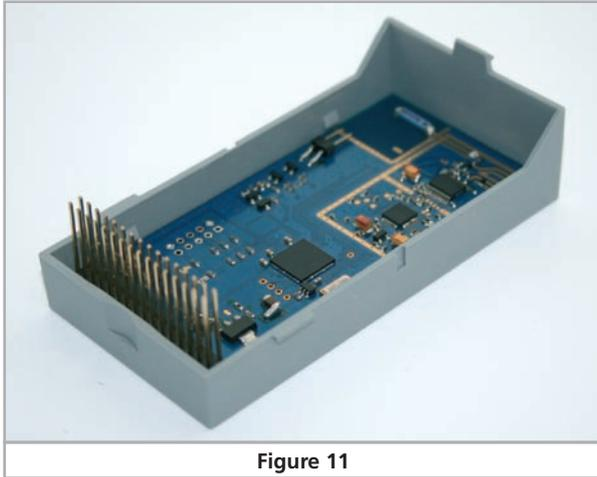

Figure 11
- b) Insert the receiver module into the plug-in position until it is locked into place (Fig. 11).